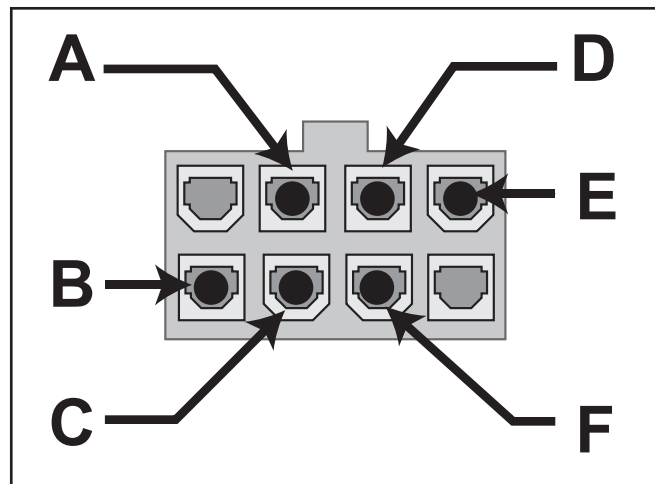

Figure 7
- b) No continuity: Remove the connector from the module (Figure 7). Using a multimeter check the electrical circuits for the conditions listed in the table below.